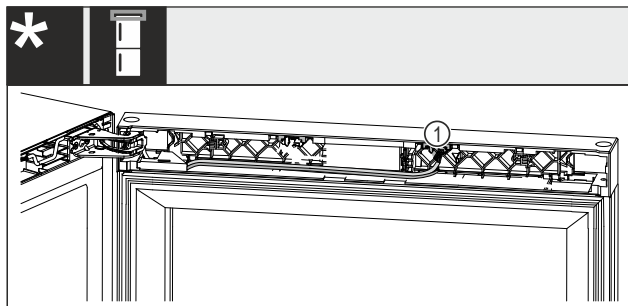

Fig. 23 Wine-freezer combinations\*
- ▶ Pull the plug *Fig. 23 (1)* out of the harness.\*